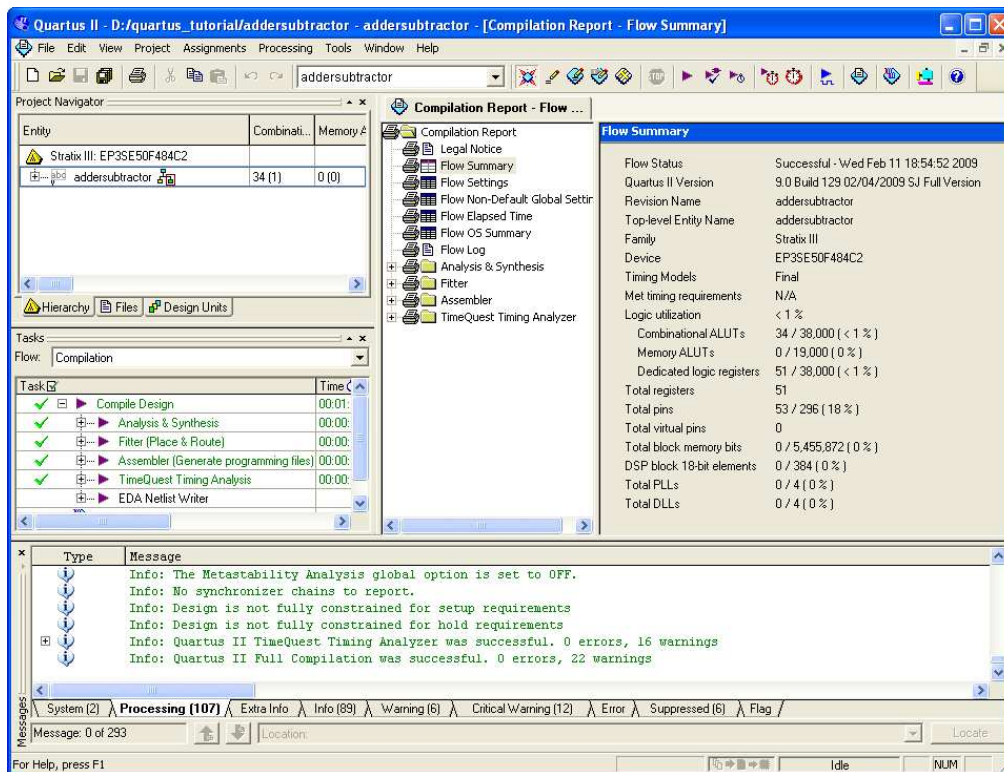

Figure 19: Display after a successful compilation.
1. Run the Compiler by selecting **Processing > Start Compilation**, or by using the toolbar icon . As the compilation moves through various stages, its progress is reported in the Tasks window on the left side. This window also provides a comprehensive interface to edit, start, and monitor different stages of the compilation. Successful (or unsuccessful) compilation is indicated in a pop-up box. Acknowledge it by clicking OK. This leads to the Quartus® II display in Figure 19, in which we have expanded the Entity hierarchy in the top left corner to show all modules in the *addersubtractor* design. In the message window, located at the bottom of the display, various messages are shown. In case of errors, there will be appropriate messages given.